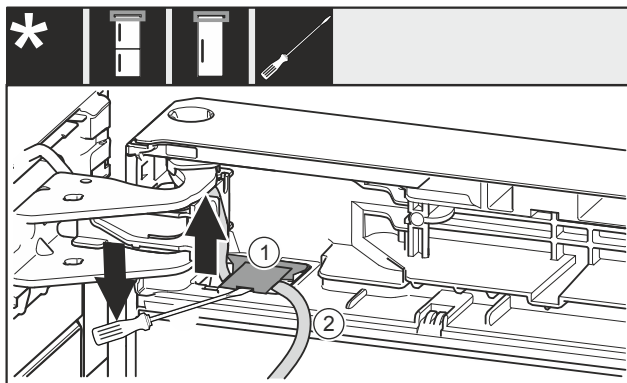

Fig. 23
- Use the slotted screwdriver to lift the cover Fig. 23 (1) up and pull it out.
- Pull out the cable Fig. 23 (2).